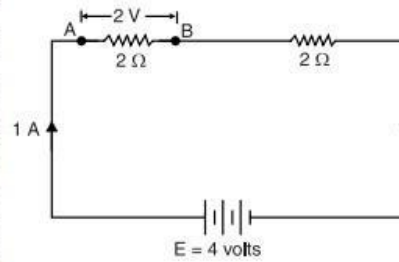

Fig. 1.8
**Illustration.** The difference between *e.m.f.* and *p.d.* can be made more illustrative by referring to Fig. 1.8. Here battery has an *e.m.f.* of 4 volts. It means battery supplies 4 joules of energy to each coulomb continuously. As each coulomb travels from the positive terminal of the battery, it gives up its most of energy to resistances ( $2 \Omega$  and  $2 \Omega$  in this case) and remaining to connecting wires. When it returns to the negative terminal, it has lost all its energy originally supplied by the battery. The battery now supplies fresh energy to each coulomb (4 joules in the present case) to start the journey once again.
The *p.d.* between any two points in the circuit is the energy used by one coulomb in moving from one point to another. Thus in Fig. 1.8, *p.d.* between  $A$  and  $B$  is 2 volts. It means that 1 coulomb will give up an energy of 2 joules in moving from  $A$  to  $B$ . This energy will be released as heat from the part  $AB$  of the circuit.